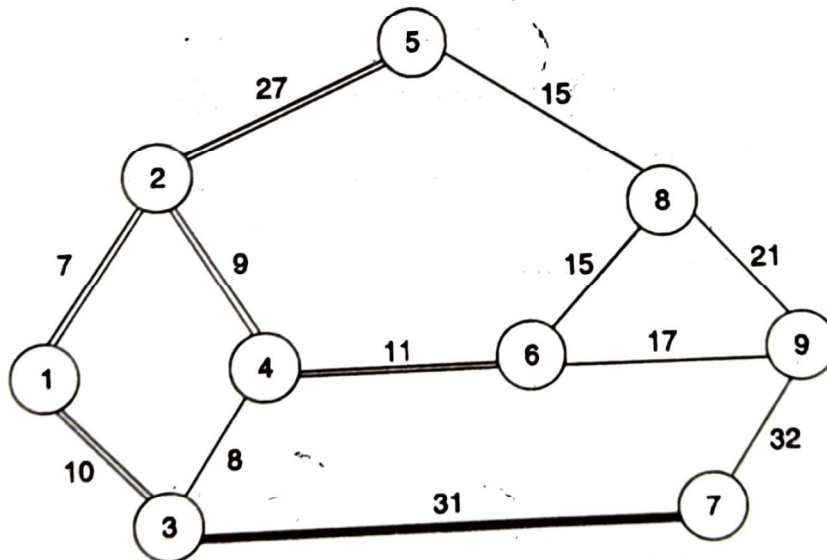

Fig. 5.15 Network showing partial solution.
2.2 The iteration among the preceding iterations in which the distance to L from the starting node is different from X is the Iteration 2. The node selected in that iteration is 3. So, thicken the arc 3-7 as shown in Fig. 5.15.